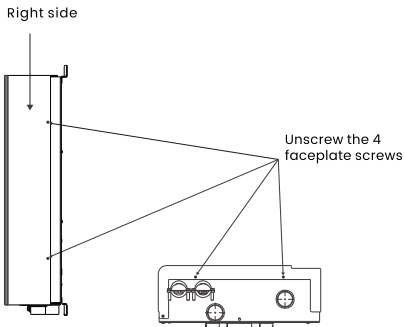
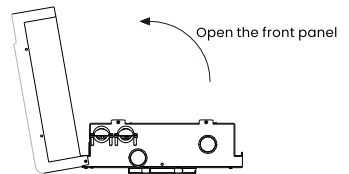

Fig 5
Fig 6
Step 4: Remove the screws on the right side and bottom (Fig 5), then open the front panel (Fig 6).